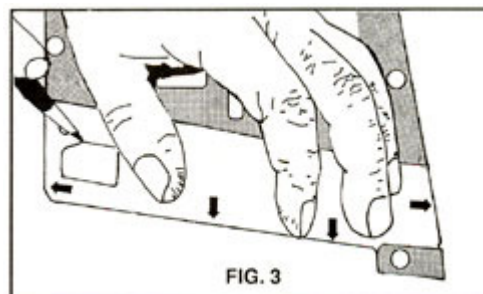

FIG. 3
**STEP 2.** Hold (**Do Not Tape**) template on gasket aligning arrows. (FIG.3.)